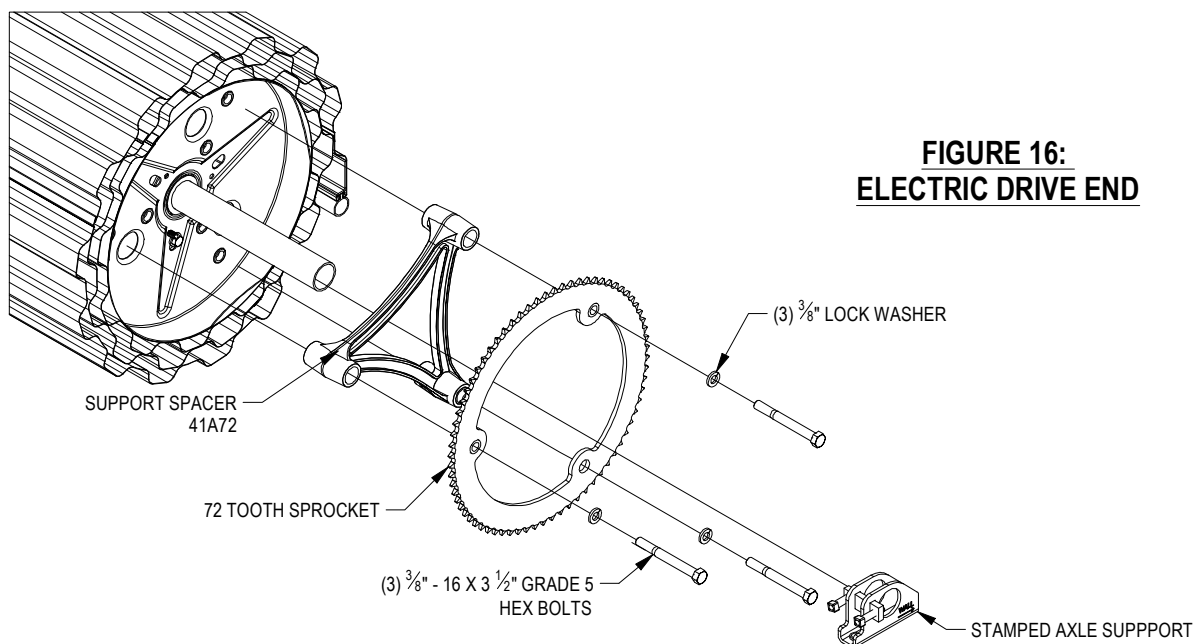

FIGURE 16:
- Attach Support Spacer and Sprocket to drum using three (3) $\frac{3}{8}$ " Lock Washers and $\frac{3}{8}$ " - 16 x 3 $\frac{1}{2}$ " Hex Bolts.
- Tighten $\frac{3}{8}$ " - 16 Square Head Set Screws when in place. **See Figure 16.**